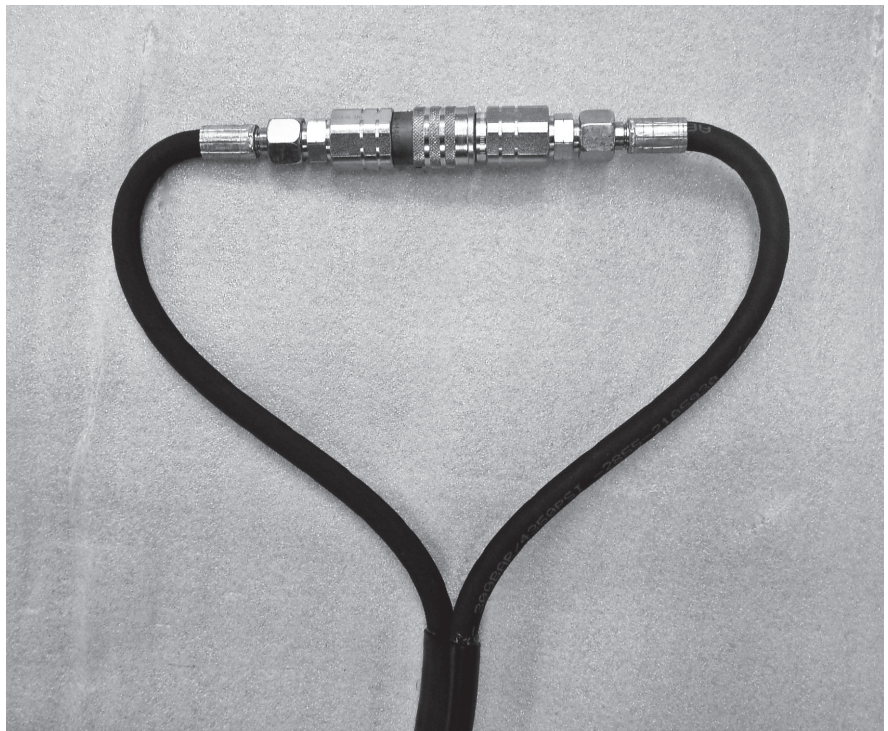

Fig. 19
2. Connect up the hoses. (Fig. 19)
3. Connect up the hoses. (Fig. 19)